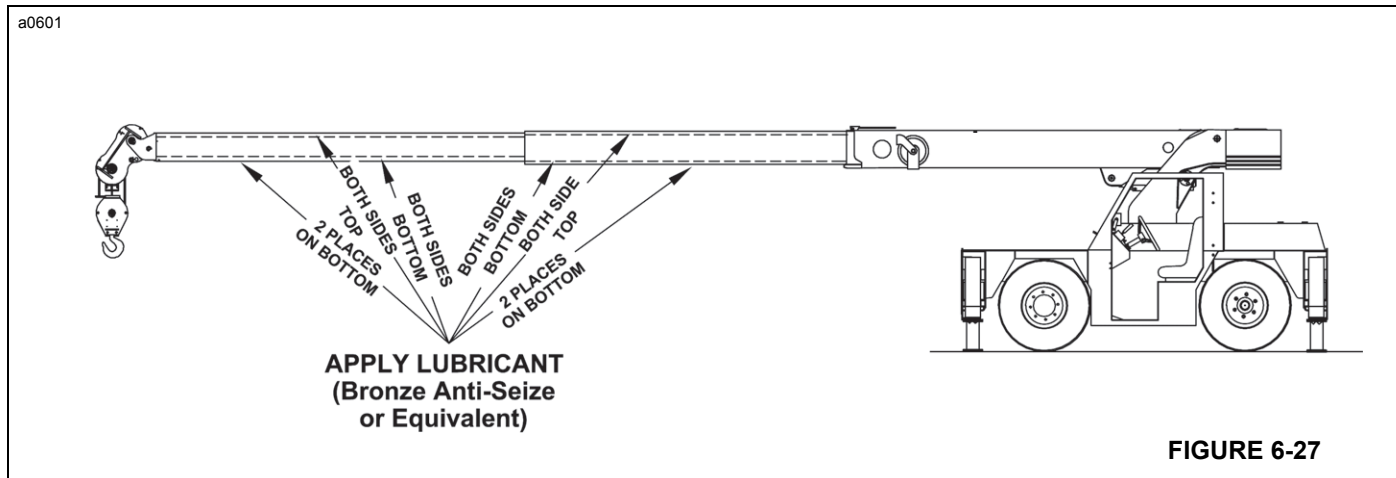

FIGURE 6-27
4. Apply bronze anti-seize, or equivalent, to the boom sliding surfaces (Figure 6-27) on the boom sections. Only use a small amount of lubricant for best results.